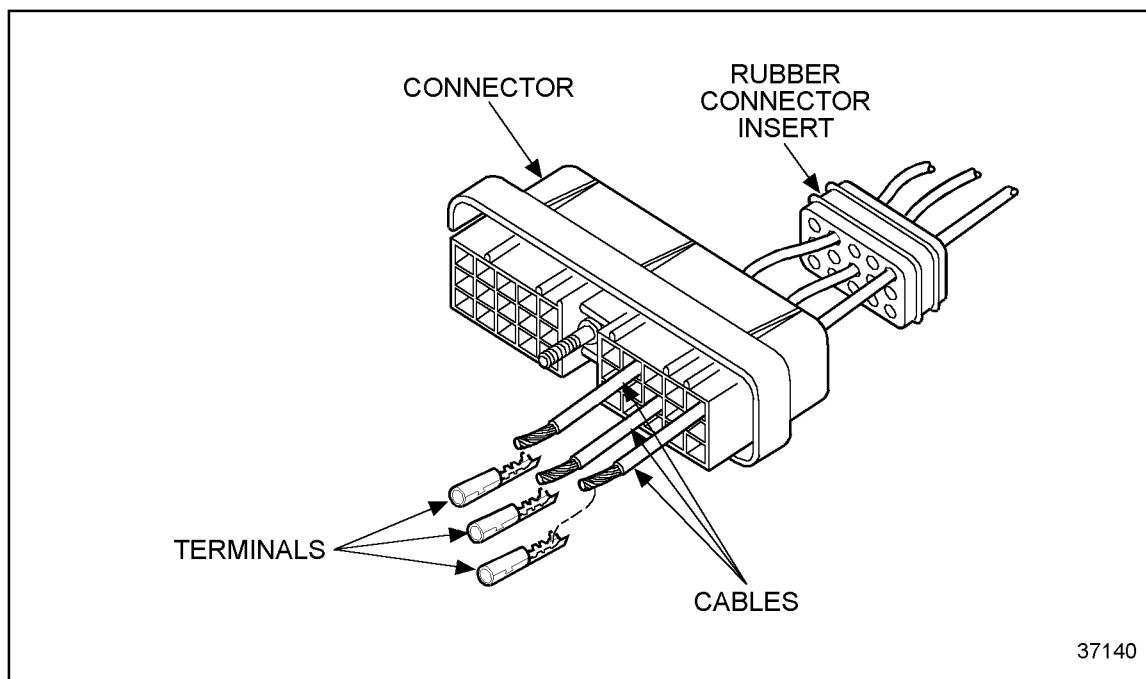

Figure 8-15 Connector Wire Insertion
1. Insert the wire through the appropriate connector hole / cavity. See Figure 8-15.
2. Remove the insulation from the end of the cable, exposing a sufficient amount of core leads to be crimped by the terminal core wings. See Figure 8-15.